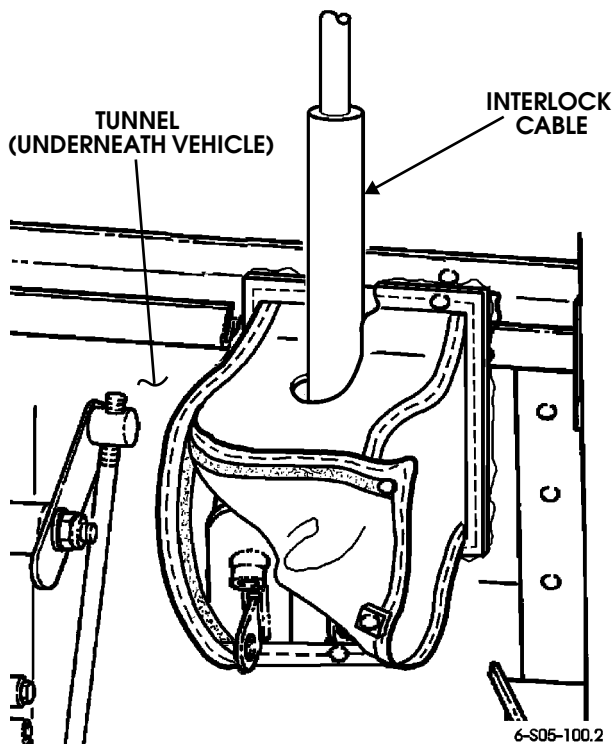

Figure 5-56: Shifter Boot Cover Removal
7. Work shifter boot cover lip out of tunnel opening and remove from under vehicle (Figure 5-56).